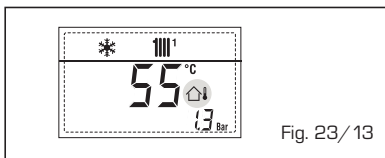

Fig. 23/13
- SAFETY THERMOSTAT INTERVENTION FIRST MIXED ZONE "ALL 20" (fig. 23/14)